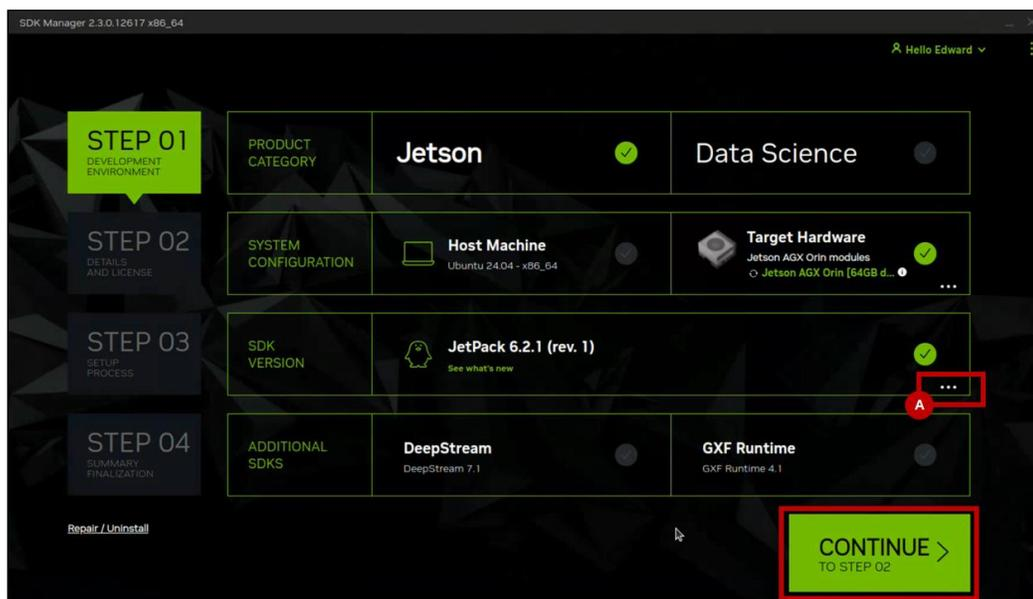

Figure 6.7. JetPack 6.2.1 (Rev.1)
7. Click the ... icon at (A) as shown in Figure 6.7, and select **JetPack 6.2.1 (Rev. 1)**. Then, click **CONTINUE** to proceed.